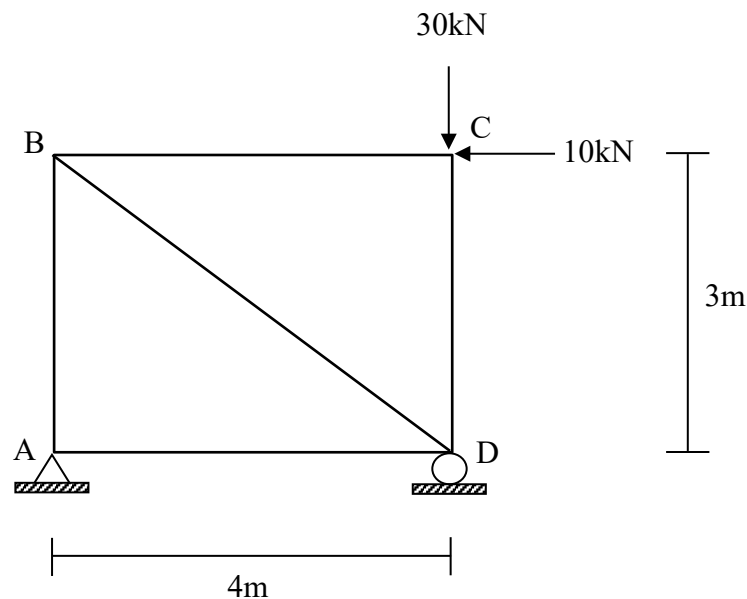

Figure A1(a) / Rajah A1(a)
- CLO2 (a) A statically determinate truss is subjected to external loads as shown in Figure A1(a). Identify the internal force in each member of the truss by using Method of Joints.